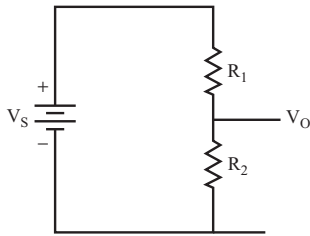

FIGURE 1.7
**23** The circuit shown in Figure 1.7 is called a *voltage divider*. It is the basis for many important theoretical and practical ideas you encounter throughout the entire field of electronics.